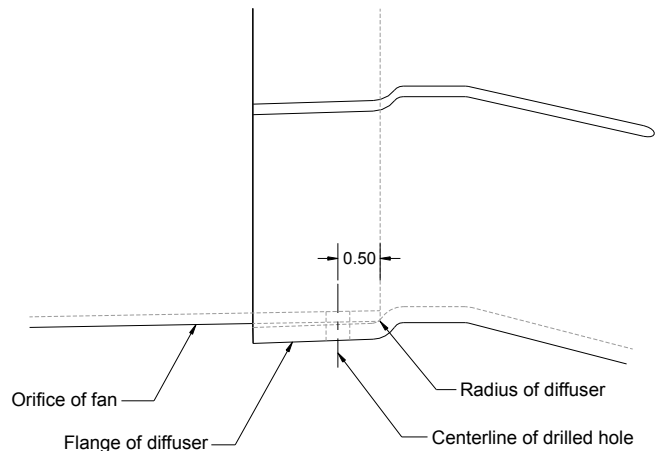

FIGURE 4
Slide the diffuser around the outside of the orifice until the orifice touches the radius of the diffuser. See Figure 4. Drill (6) $9/32$ " holes into diffuser flange (one in the center of each notched section on the diffuser flange). Start these holes from the orifice side (from the inside, drill the fiberglass orifice first and the diffuser second). The (6) holes should be approximately $1/2$ " from the edge of the orifice on the fan, see Figure 4. Secure the diffuser flange to the orifice with $1/4$ " bolts (insert bolts from the inside of the orifice), lock nuts and washers provided.